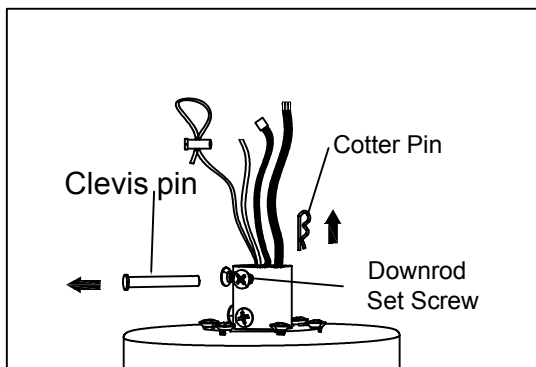

Figure 1.1
- Take out the motor assembly and then pull out the clevis pin and cotter pin. Loosen the two downrod set screws in the collar on top of the motor housing. (Figure 1.1)